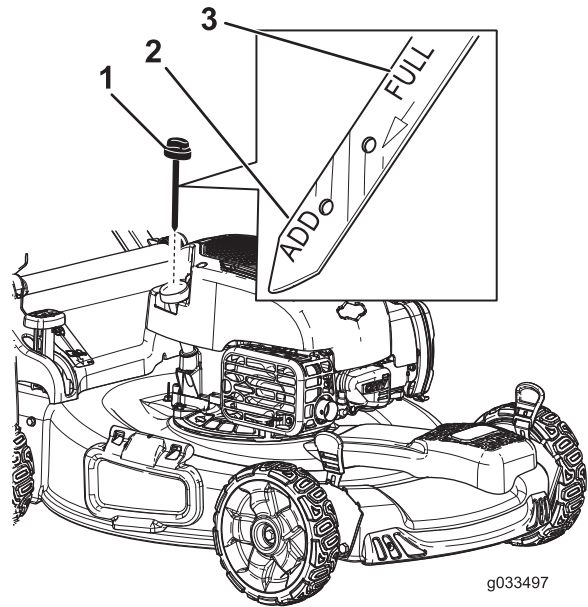

Figure 8
5. Remove the dipstick and read the oil level on the dipstick; refer to Figure 8.
2. Remove the dipstick (Figure 8) and pour about 3/4 of the crankcase capacity of oil into the oil-fill tube.